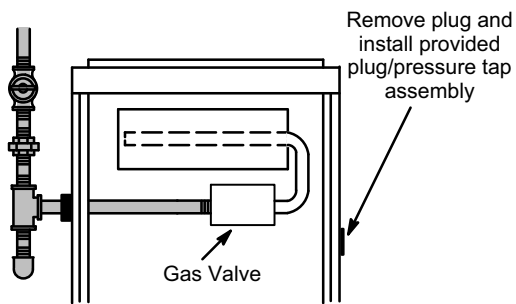

FIGURE 8
- 2 - Remove the 2" plug from the side of the cabinet not used for gas supply piping and replace with the provided plug/pressure tap assembly. See figure 8.